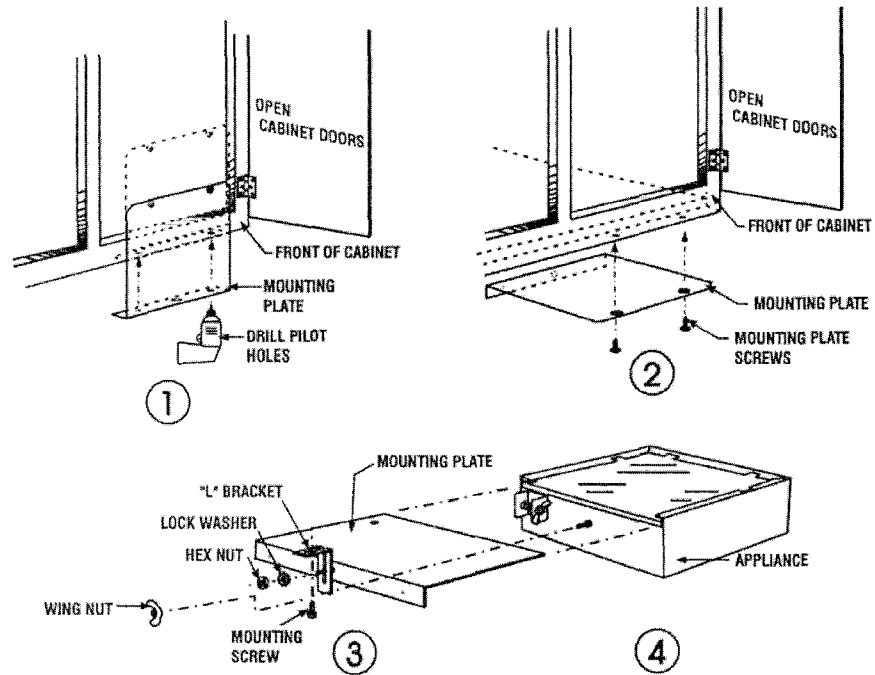

Fig. 2
### SET UP: (See Fig. 2)
TO INSTALL THE APPLIANCE PROPERLY, FOLLOW DIRECTIONS BELOW AND FIGURE 2 ABOVE.
**NOTE: TO AVOID POSSIBLE DAMAGE TO THE CABINET, MAKE SURE TO USE THE MOUNTING PLATE AS A TEMPLATE TO DRILL THE TWO (2) 3/32" DIA. PILOT HOLES.**
- Remove the brew cone from the appliance and remove the wing nut (See Fig. 2, Illust. #3) from the lower mounting screw and slide the mounting plate out from the rear of the appliance.
- Loosen, but do not remove, the nut holding the "L" bracket to the rear of the mounting plate. Holding the mounting plate in place flush along the bottom edge of the cabinet facing (See Fig. 2 Illust. #1), drill two (2) 3/32" Dia. pilot holes on the cabinet using the 2 holes provided on the mounting plate flange to assure that the mounting screws will go in easily and not damage the cabinet.
- After drilling the two (2) pilot holes, hold the mounting plate in place (Fig. 2, Illust. #2), install two (2) screws through the holes provided at the front edge of the mounting plate and tighten. This will mount the front of the mounting plate.